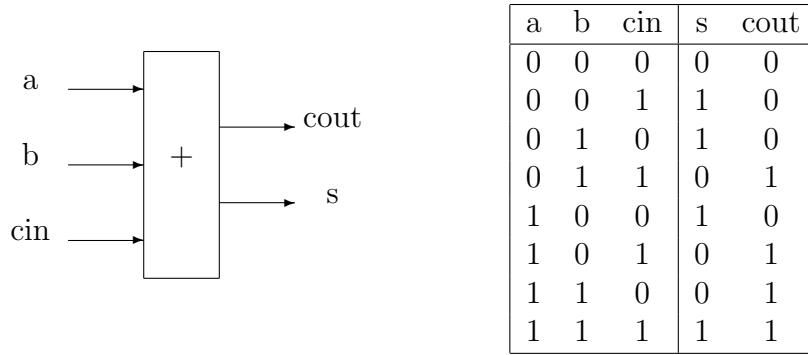

Figure 1: FA block diagram and truth table.
A full adder (FA) is a logic block with three one-bit inputs (`a`, `b`, and `cin`) and two one-bit outputs (`s` and `cout`). Its block diagram and truth table are shown in Figure 1. Your next task is to design an FA in VHDL and verify it using the provided test bench.